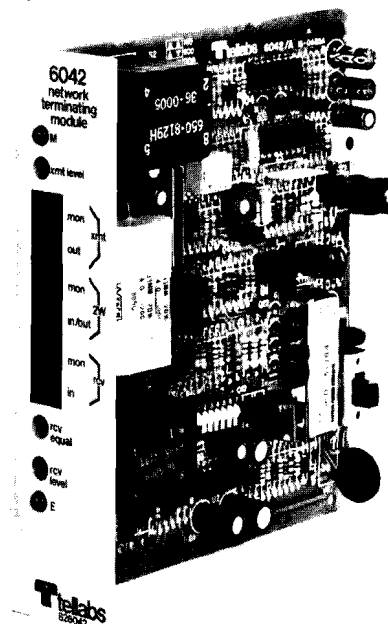

figure 1. 6042 Network Terminating Module
1.01 The 6042 4W-2W DX-E&M Network Terminating Module (figure 1) provides signaling conversion and transmission interface between a 4wire metallic facility and a 2wire PBX tie trunk. Along with active level control (gain or loss) in the transmit and receive channels and active slope equalization in the receive channel, the 6042 provides duplex (DX) signaling (which is extended-range E&M signaling) over simplex leads derived from the 4wire facility, conversion between the DX signaling and terminal-side E&M signaling, and extension of the E&M signaling toward the 2wire termination. Conversion from 4wire to 2wire operation is provided via an integral toll-grade hybrid terminating set. The 6042 offers switch-selectable DX1 or DX2 operation with a choice of either Type I, Type II, or Type III E&M interface. As a member of Tellabs' 262U Universal Network Terminating System of modules and enclosures, the 6042 fulfills Registered Facility Interface Codes TL11E, TL11M, TL12E, and TL12M for applications where the serving telephone company uses facility-side DX signaling.